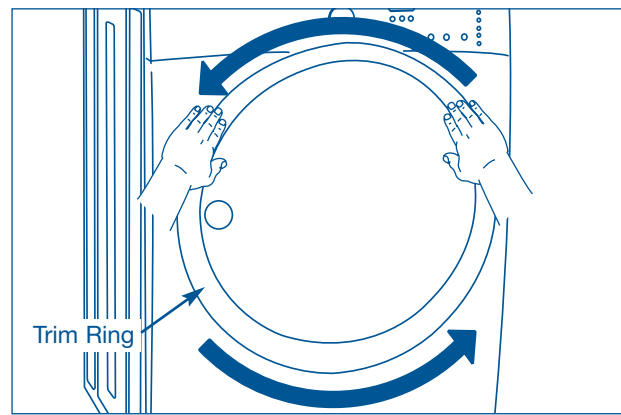

Figure 4-2.
4. Rotate the door trim approximately  $\frac{3}{4}$ " counter-clockwise and pull it away from the front of the door. (See Figure 4-2)